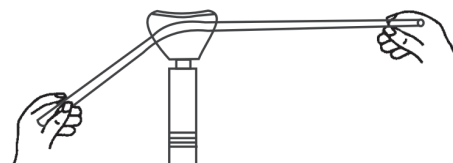

Fig. 2.7 ALLOWING THE TUBE TO BEND UNDER ITS OWN WEIGHT
4. When the tube starts softening at the point of heating (as felt by hands), keep one side of the tube held firmly in one hand and let the tube bend under its own weight, the second hand simply guiding the direction of bending as shown in Fig. 2.7.